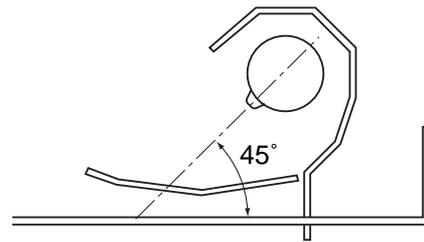

Figure 4-304
- Orient the scanning lamp so that the boss is at the angle indicated in Figure 4-304.